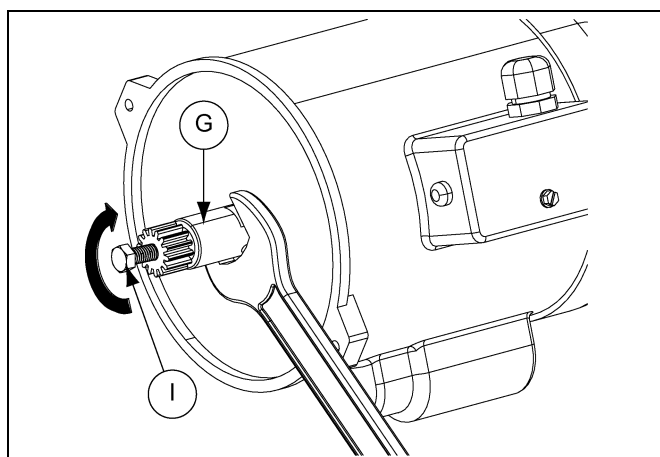

Figure 5V
- Hold the pinion with a wrench and install a 3/8"-16 x 2-1/2" or longer bolt (I) into the end of the pinion and turn until the pinion is released from the shaft. (See Figure 5V.)